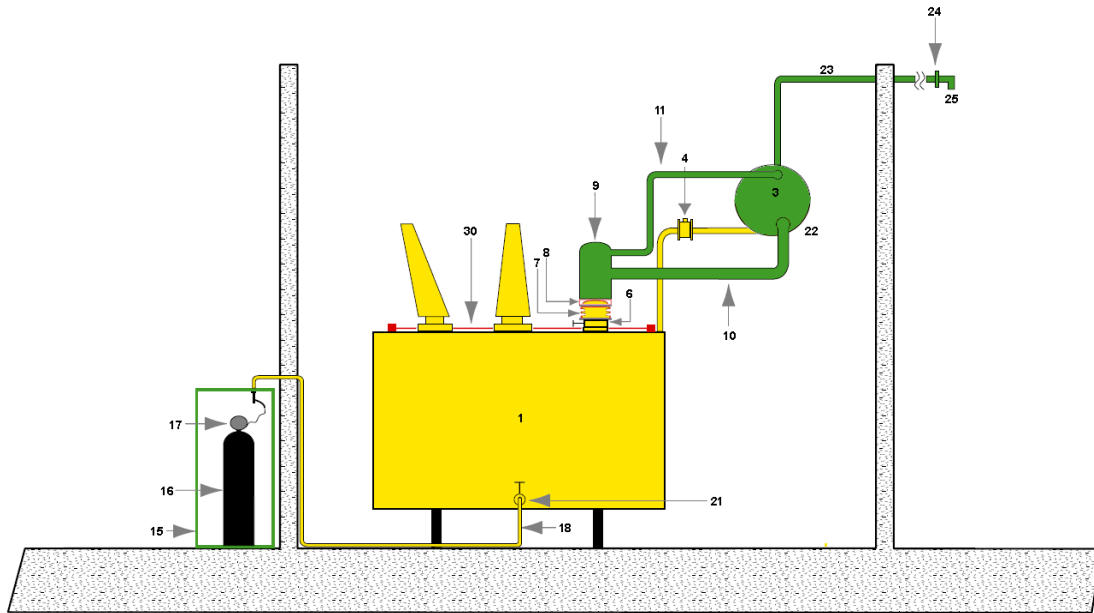

Figure 1: TRANSFORMER PROTECTOR, TP type
Application examples for the TP model are listed below with reference to Figures 1, 2, 3, and 4. The TP, TPA, TPB, and TPAB are used on transformers located indoors and outdoors. When activated the explosive oil and gases are routed to the OGST which are then separated. The explosive gases are routed to a remote area where they are evacuated without causing possible damage to the plant equipment.
- **TP type**, Figure 1, is suitable for transformers from 0.1 MVA up to 1,000 MVA and above, located either indoors or outdoors. In this type, the transformer Depressurization Set (items 6-9) will allow the depressurization in case of an internal fault. The depressurized oil and gas mixture is routed to an Oil-Gas Separation Tank (item 22). The gases are expelled through the Explosive Gas Evacuation Pipe (item 23), outside the building or to a remote area where gases can burn safely. An Air Isolation Shutter (item 24) is installed at the end of the Explosive Gas Evacuation Pipe (item 23) to avoid air from entering into the Oil-Gas Separation Tank (item 22) or the transformer tank.
The TP is made up of several sets, each performing a different function, with reference to Figures 1, 2, 3, and 4.